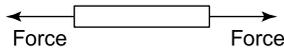

Figure 2.1
**Tension** is a force that tends to stretch a material, as shown in Figure 2.1. For example,